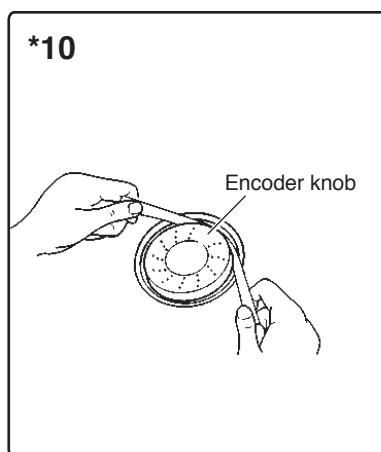

Fig.3-4
*10 Encoder Knob (See Fig.3-4.)